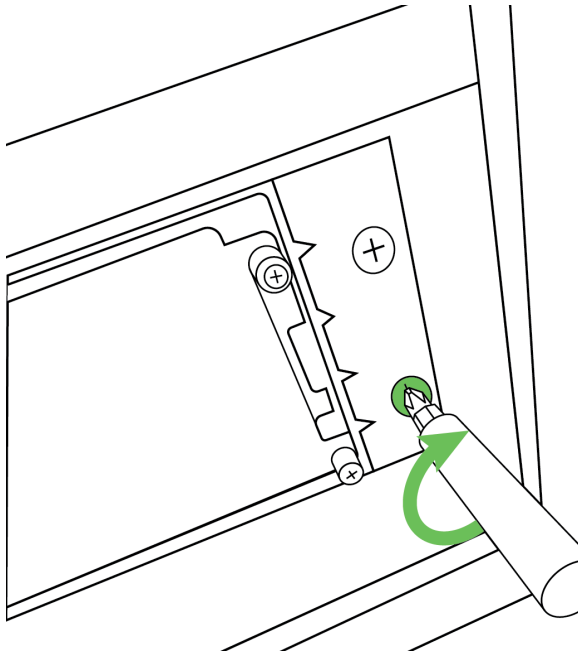

Figure 6-11. Securing the UPS
6. Secure the L-bracket to the rack mount of the setup box by using the bracket mounting screws (Figure 6-11).